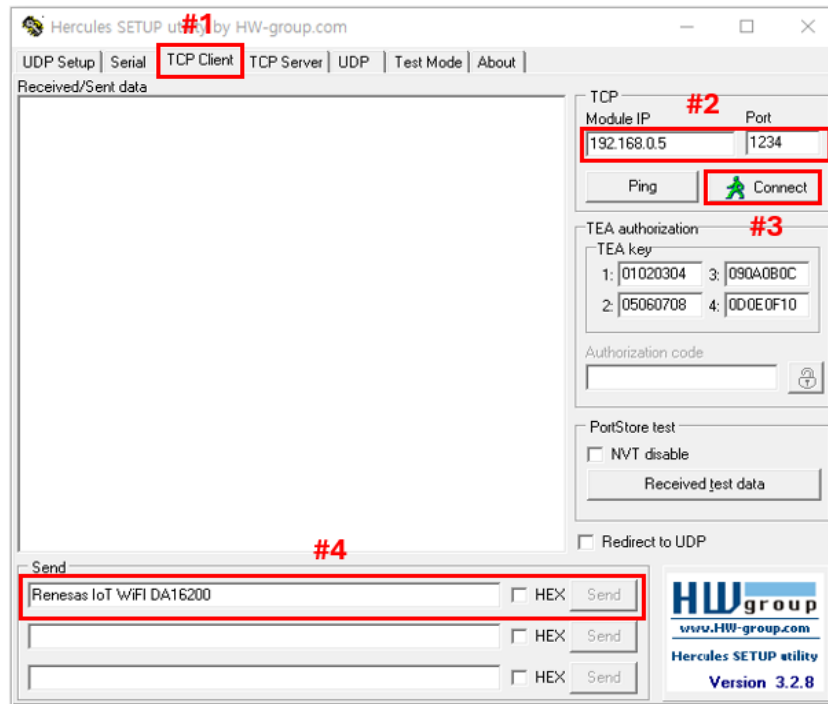

Figure 27. Hercules – TCP client socket setting
- a. Select TCP Client (#1, Figure 27).
- b. Enter the IP address and the port number of DA16200/DA16600 (#2, Figure 27).
- c. Click Connect to connect the socket (#3, Figure 27).
- a. Send data (#4, Figure 27).